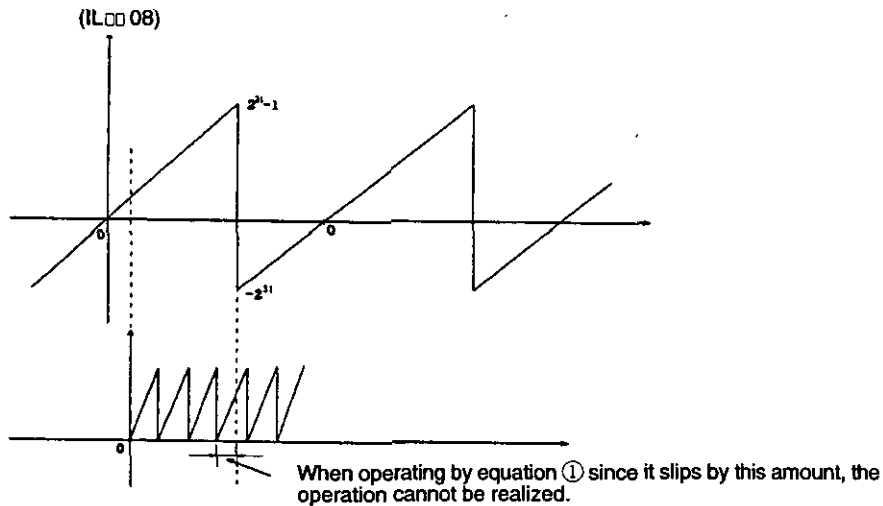

Fig. 3.65 Feedback Pulse
If the axis is rotating indefinitely in a single direction, to express the feedback pulse (current position) as a finite number, if the point where the feedback pulse sign is changed is passed, according to equation ① the operation is not realized. In the CP-9200SH since the feedback pulse (current position) is expressed in 32 bits, equation ① is no longer realized at the point of changing from  $+2^{31}-1 \rightarrow -2^{31}$  (Refer to Fig. 3.65).